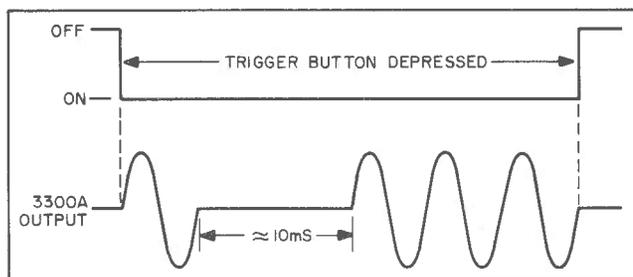

Figure 3
b. At high frequencies, above 1 kHz, the 3300A will generate one cycle immediately after the MANUAL TRIGGER button is depressed and then it will shut off momentarily. Approximately 10ms later, the 3300A will start oscillating again, this time continuously as long as the MANUAL TRIGGER is depressed. See Figure 3.